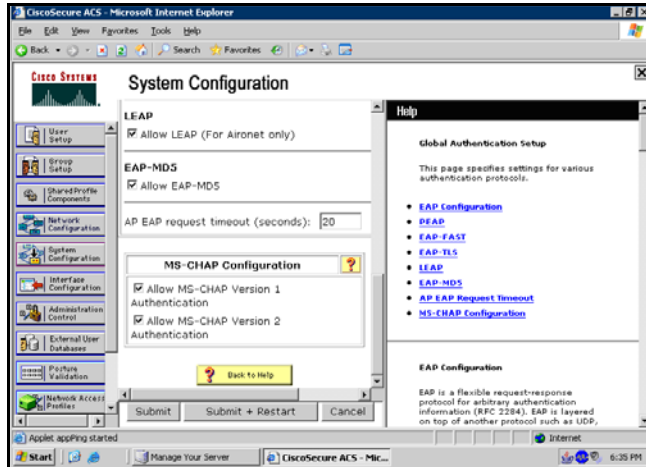

FIG. 83 EAP-LEAP sample Cisco System Security page
- Refer to FIG. 83 for an example of how a typical EAP-LEAP system configuration page should appear.